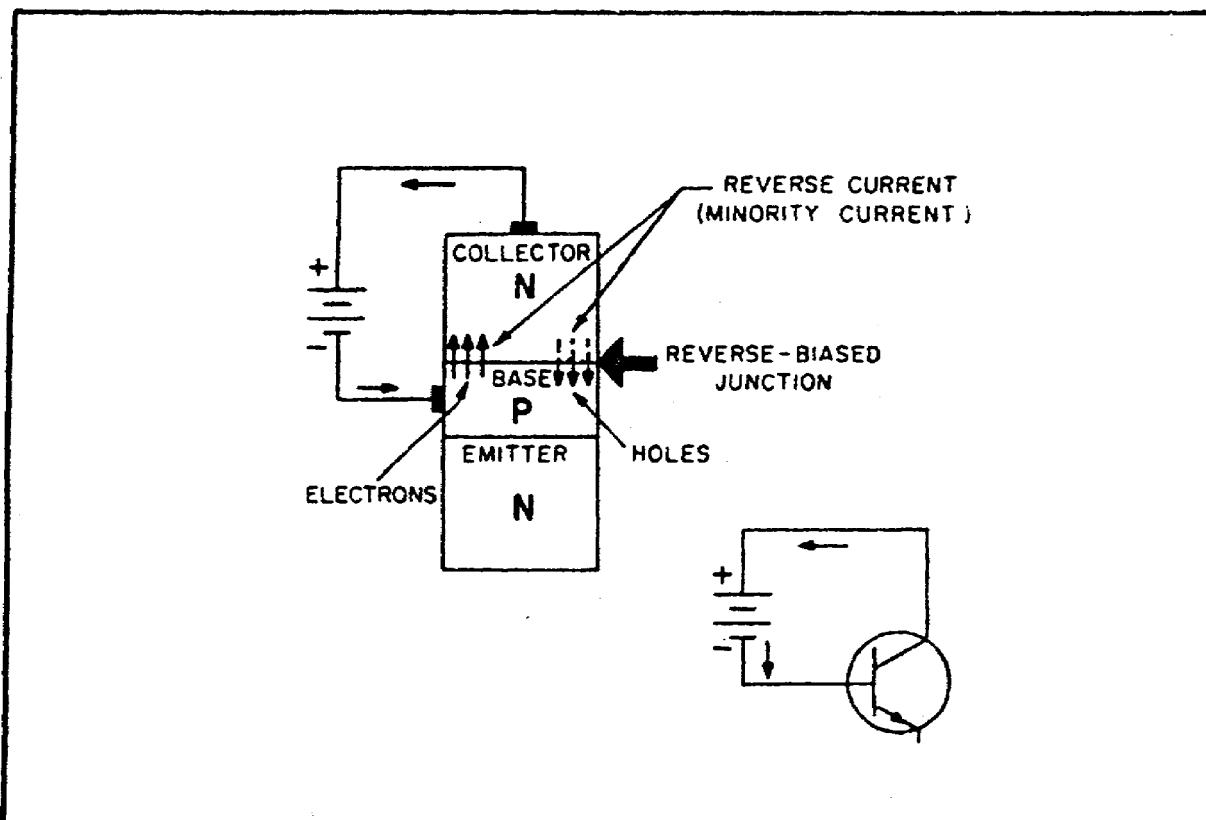

FIGURE 90. REVERSE-BIASED JUNCTION IN AN NPN TRANSISTOR.
(2) *NPN Reverse-Biased Junction.* The second PN junction (base-to-collector), or reverse-biased junction as it is called (Figure 90 on page 126), blocks the majority (: current carriers from crossing the junction. However, there is a very small current that does pass through this junction. This current is called minority current or reverse current. This current is produced by the electron